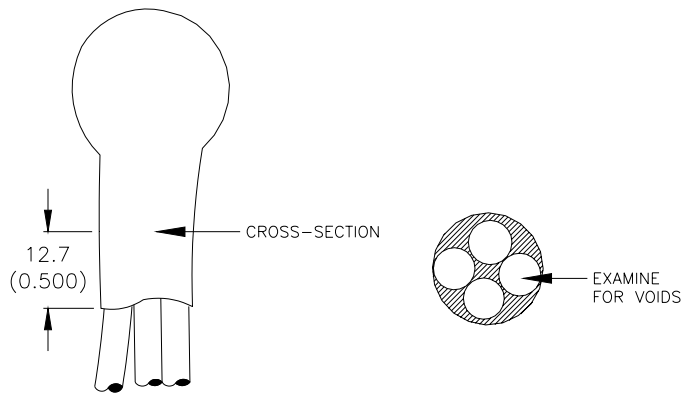

Figure 2
4. The average length of time required for proper heating is given in the chart. However, since the heat sink effect of various wire bundles may vary considerably, several trial specimens should be cross-sectioned as shown in Figure 2 before proceeding with production installations. If the area between the wires is not completely filled, a longer heating cycle should be established.